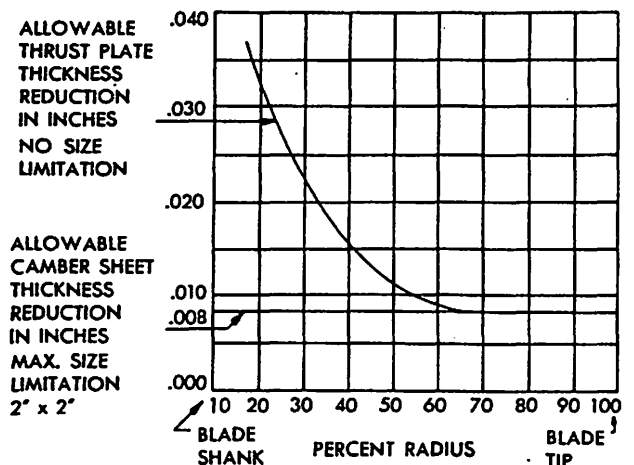

Figure 5-51. Material Removal Chart
3. When removing metal, a fine stone should be used and as little metal as possible should be removed. Sharp edges concentrate stresses and may eventually lead to cracks. After dressing with a stone, the surface should be smoothed with crocus cloth. Raised edges or nicks, scratches, and cuts may be removed as shown in figure 5-50. The maximum allowable amount of metal which may be removed is shown in figures 5-51 and 5-52.